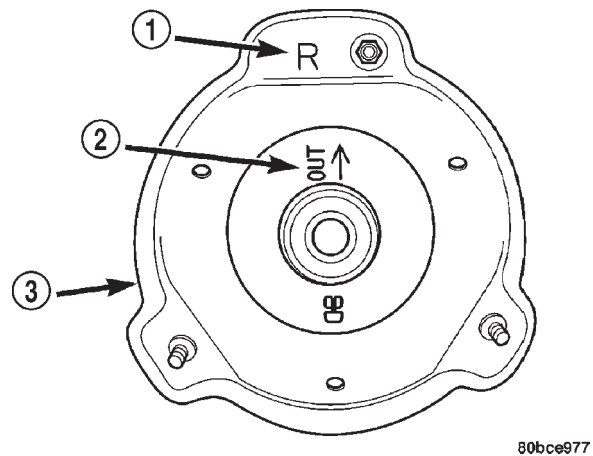

Fig. 20 Upper Mount Markings
NOTE: Before installing the upper mount, check to make sure the correct side mount is being installed. Left and right upper mounts are different. A left mount will be marked with the letter "L" while a right mount will be marked with the letter "R" (Fig. 20).
(8) Install the upper mount over the strut shaft and onto the top of the upper spring. Near the center on the top of the mount is the word "OUT" and an arrow (Fig. 20). Point the arrow on the mount in the same direction that the clevis bracket on the lower end of the strut is pointed in. This direction should be straight toward the compressor.